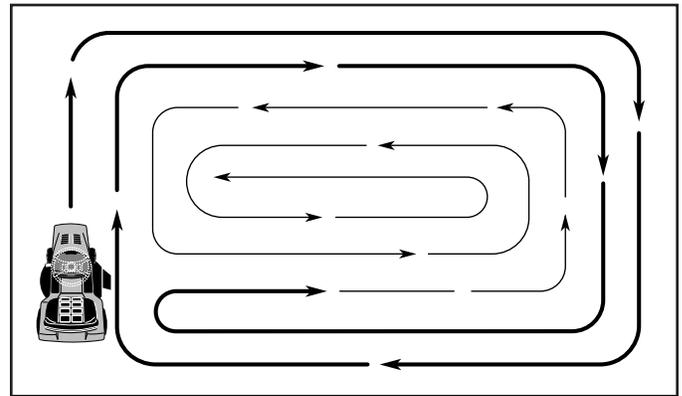

Fig. X1
- When mowing large areas, start by turning to the right so that clippings will discharge away from shrubs, fences, driveways, etc. After one or two rounds, mow in the opposite direction making left hand turns until finished (See Fig. X1).